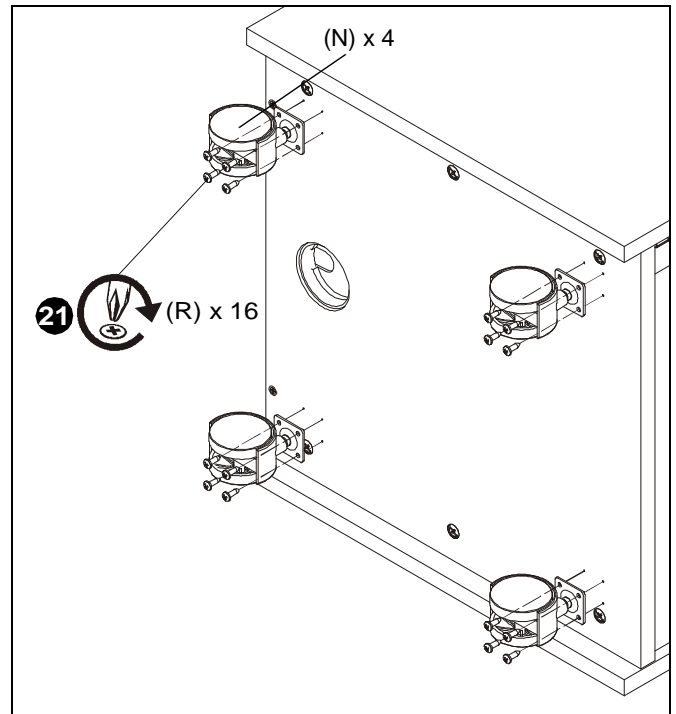

Figure 12
21. Use 16 #10-5/8" wood screws (R) to secure four casters (N) to rack bottom. (See Figure 12)